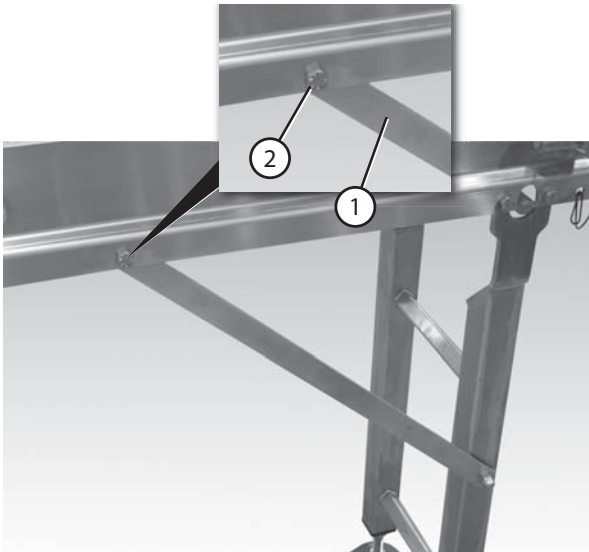

Figure 17
2. Attach the opposite end of the bracing bar (Figure 17, item 1) to the conveyor with an M10 screw (Figure 17, item 2).